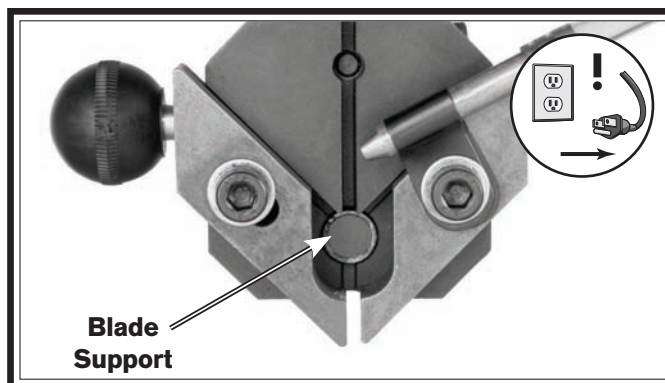

Figure 25. Blade guide assembly (upper assembly shown without blade for clarity).
6. Slide the blade support (see **Figure 25**) up to, but not touching, the back of the blade, then re-tighten the blade support cap screw.
8. Use a 5mm hex wrench to loosen the blade guide cap screws (see **Figure 25**).